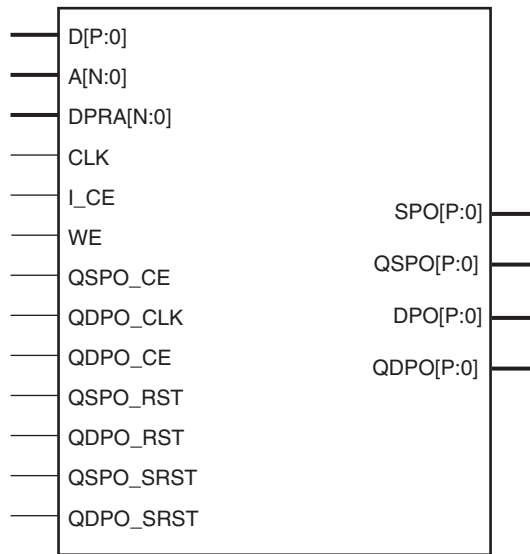
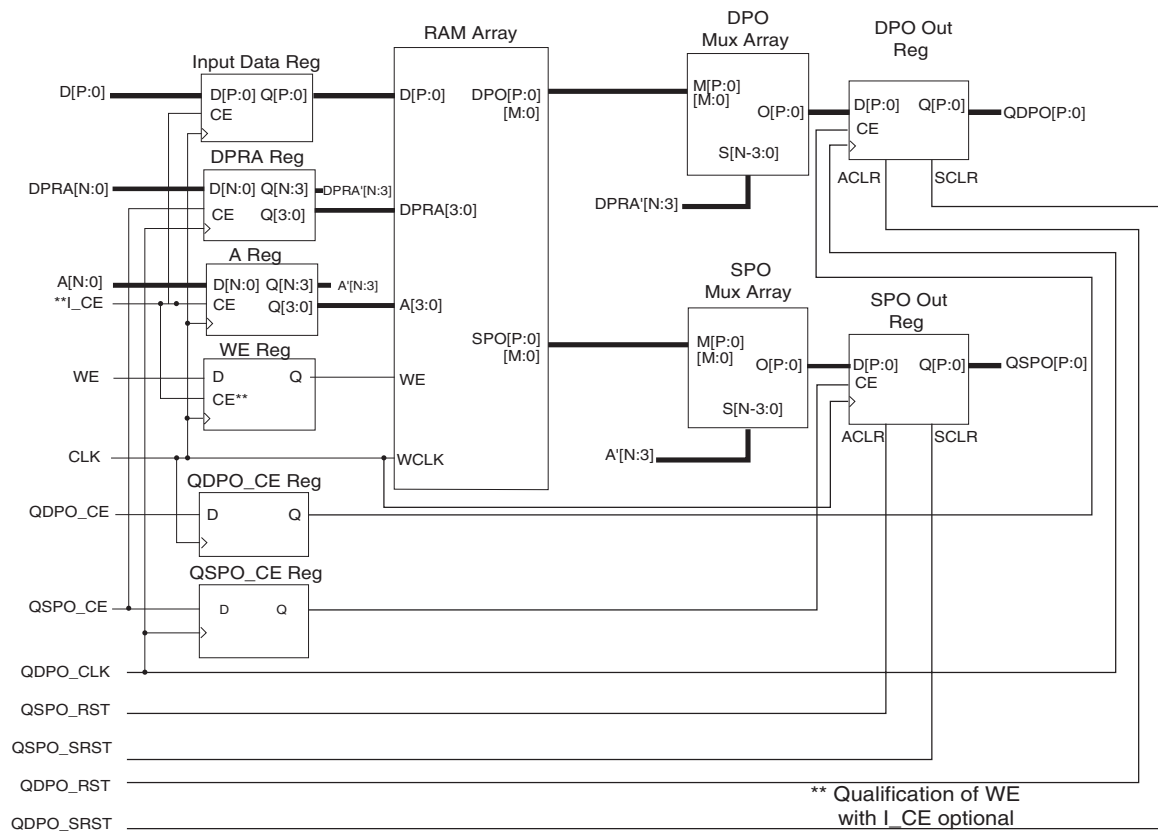

Figure 5: Dual-Port RAM Schematic Symbol
Figure 6: Dual-Port RAM Module Schematic
Writes to the distributed dual-port RAM are synchronous to the clock (CLK). However, read operations from the distributed dual-port RAM can be asynchronous or synchronous with respect to either of the two clocks (CLK or QDPO_CLK). **Figure 5** illustrates the dual-port RAM schematic symbol, showing the relevant ports. **Figure 6** shows the internal implementation of the distributed dual-port RAM. If a pipeline register is added to a registered core (not illustrated), the additional register is re-timed into the SPO MUX array and DPO MUX array.
- **Dual-Port RAM.** **Figure 6** illustrates a schematic of the structure of the dual-port RAM modules. The address and data registers are optional (controlled by the setting of the Input Options parameter). The dual-port read address register is optional (controlled by the setting of the Dual-Port Address parameter). Output registers for both output ports are also optional (controlled by the setting of the Output Options parameter). When registered outputs are selected, the two output ports can be clocked by the same or different clock signals and can have the same or different clock enables (based on the settings selected for the Common Output Clock and Common Output CE parameters). All resets and clock enables are optional. Note that the clock CLK is always required, because writes to the RAM are synchronous to that clock.